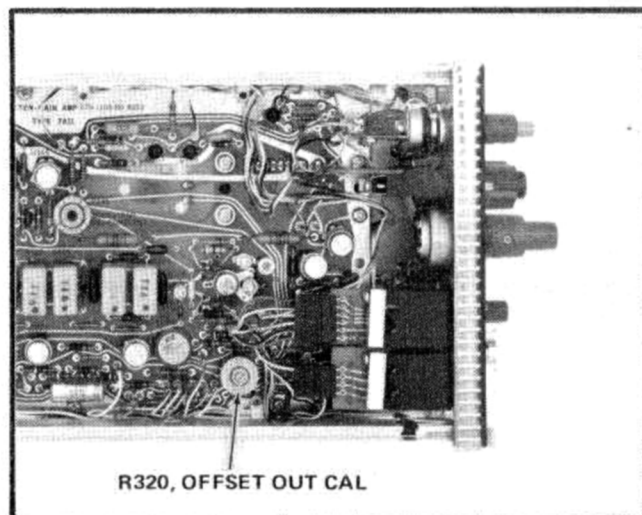

Fig. 5-8. Adjustment location, step 7.
f. CHECK—OFFSET OUT accuracy. Using the Differential Voltmeter and the Cable Assembly (item 18), check the voltage at the OFFSET OUT jack. It should be equal to the following:  $-500\text{ mV} \pm 5.5\text{ mV}$  with Amplitude Calibrator And Comparator;  $-400\text{ mV} \pm 10.5\text{ mV}$  with Oscilloscope Calibrator.
g. (Calibration Procedure only.) ADJUST—OFFSET OUT CAL - R320 (Fig. 5-8) as necessary to obtain 500 mV OFFSET OUT voltage with Amplitude Calibrator And Comparator, or 400 mV with Oscilloscope Calibrator. Note that R320 interacts on the trace position and the front-panel OFFSET controls will have to be readjusted to keep the trace at graticule center.